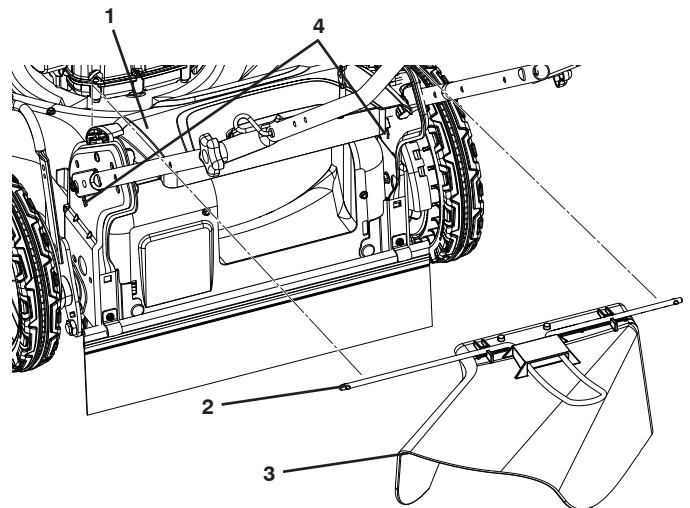

Figure 11
REAR DISCHARGING (See Fig. 11)
1. Lift the rear door and install the clipping deflector (available accessory) legs into holes of handle brackets as shown (Figure 11).